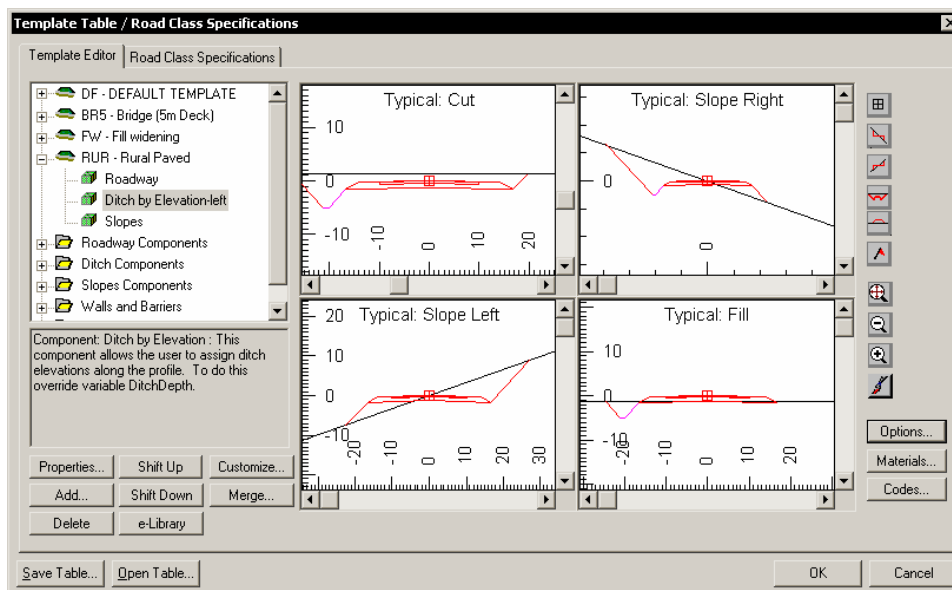

Figure 5.28: Template Editor Typical Views
6. Press the *Shift Up* button so the new component lies between the existing Roadway and Slopes components as shown in the Figure 5.28.